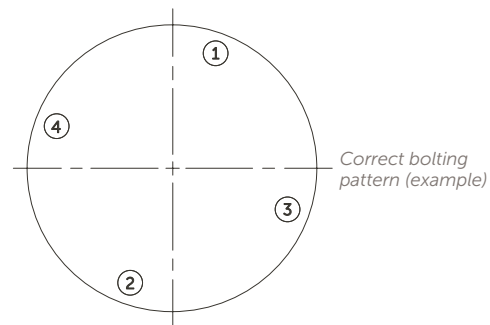

Figure 10.
2. Follow the bolting pattern shown in Figure 10.